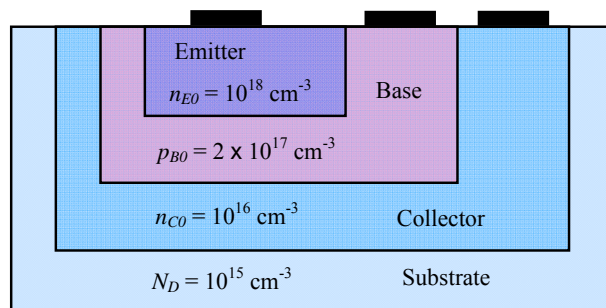

Fig. Q.4
4. Figure Q.4 below shows the structure of a silicon n-p-n bipolar transistor with the regions and majority carrier concentrations as indicated. Starting with a silicon wafer (substrate) doped with donors at a concentration $N_D = 10^{15} \text{ cm}^{-3}$, the different regions (collector, base, emitter) are made by successively introducing dopants into selected regions by ion-implantation through the top surface. Assume, for simplicity, that uniform doping concentrations can be achieved in each of the regions.